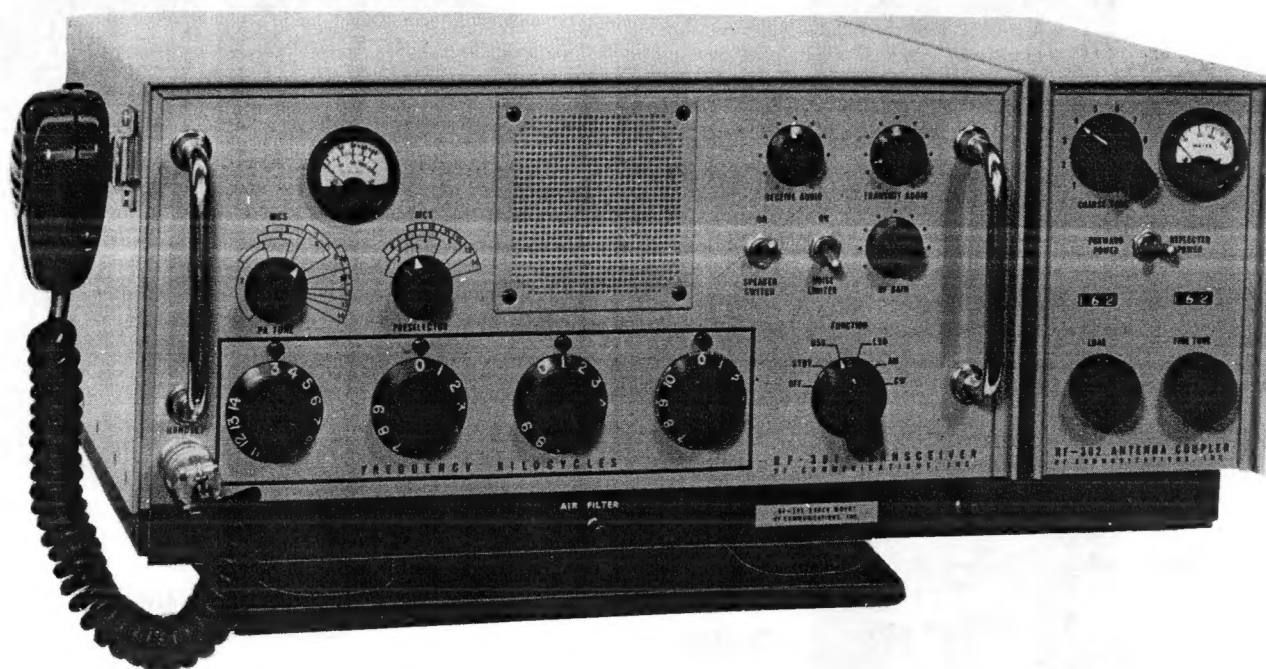

Figure 3-8.—Radio Transceiver AN/URC-58(V).
The AN/URC-58(V) radio set (fig. 3-8) is a single sideband (SSB) transceiver for general-purpose voice and CW communications and may be used for ship and shore fixed installations, semiportable applications such as in vehicles, and amphibious landing craft, and for use aboard ship.